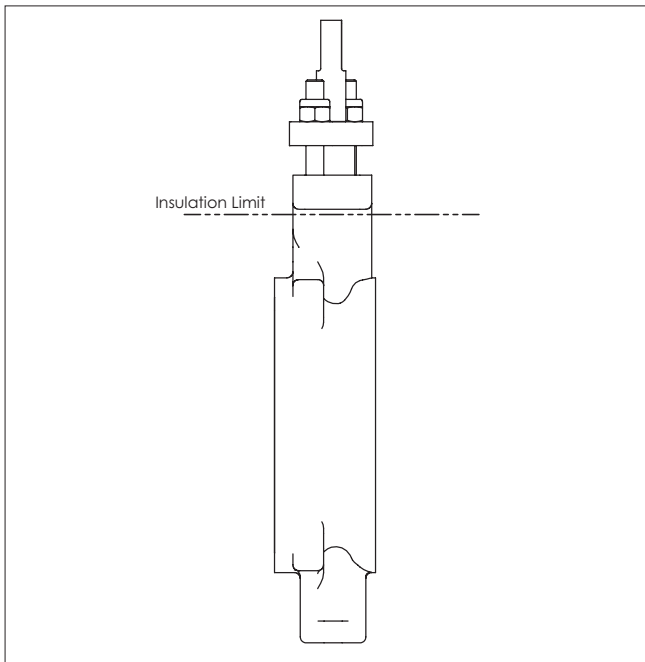

Figure 4. Insulation of the valve
7. It is not recommended to install the valve with the stem on the underneath side because dirt in the pipeline may then enter the body cavity and potentially damage the stem packing (see **Figure 4**).